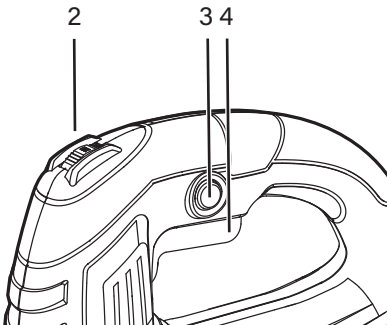

FIG.3
**Switch on and off (See Fig. 3)**
1. Press the ON/OFF switch trigger (3) and start the tool.
3. If you want the tool to operate continuously, please depress the lock-on button (4).
**Variable speed (See Fig. 3)**
1. By turning the speed adjustment dial (2) forward or backward, you can get the variable speed.
3. Position "1" denotes the lowest speed. Position "6" denotes the highest speed. (See Fig. 3)